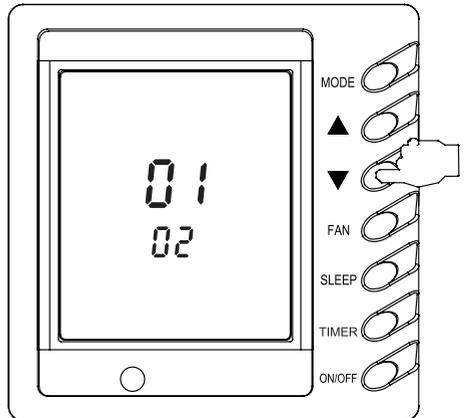

Fig. 23
- (2) Indoor ambient temp is wired controller temp and the setting temp area displays 01, as shown in Fig.23.